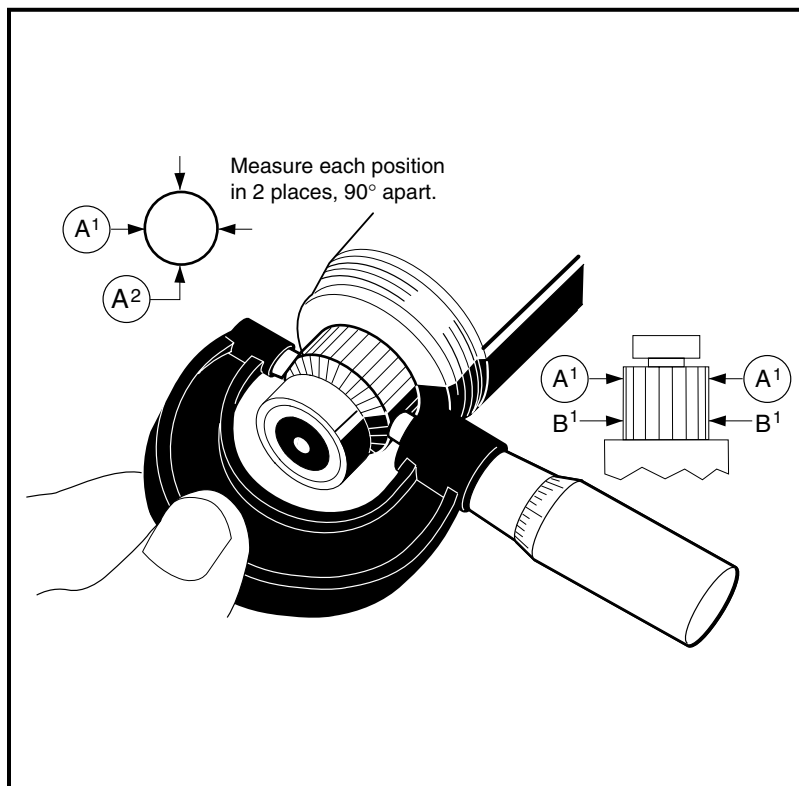

Figure 12a-12 Inspect Commutator
2. Using a micrometer, measure the outside diameter at four points; two points 90° to each other to the outside of the commutator (A1 and A2), and two points 90° to each other to the inside of the commutator (B1 and B2). If the commutator diameter is less than 1.535 inches (39 mm) at any of the four locations, replace the armature assembly and bearings (**Figure 12a-12, Page 12a-9**).